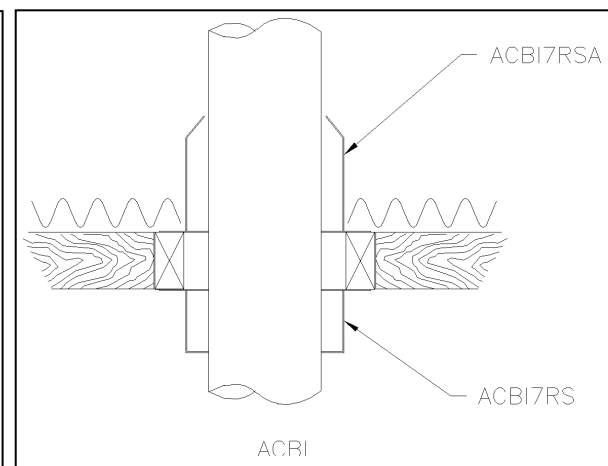

Figure 29
5. From below, install a firestop. (see figure 29).